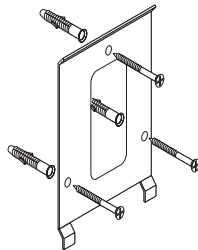

Fig. 2
- Drill three holes in the wall to attach the retaining plate and insert the fixings for the screws (Fig. 2)